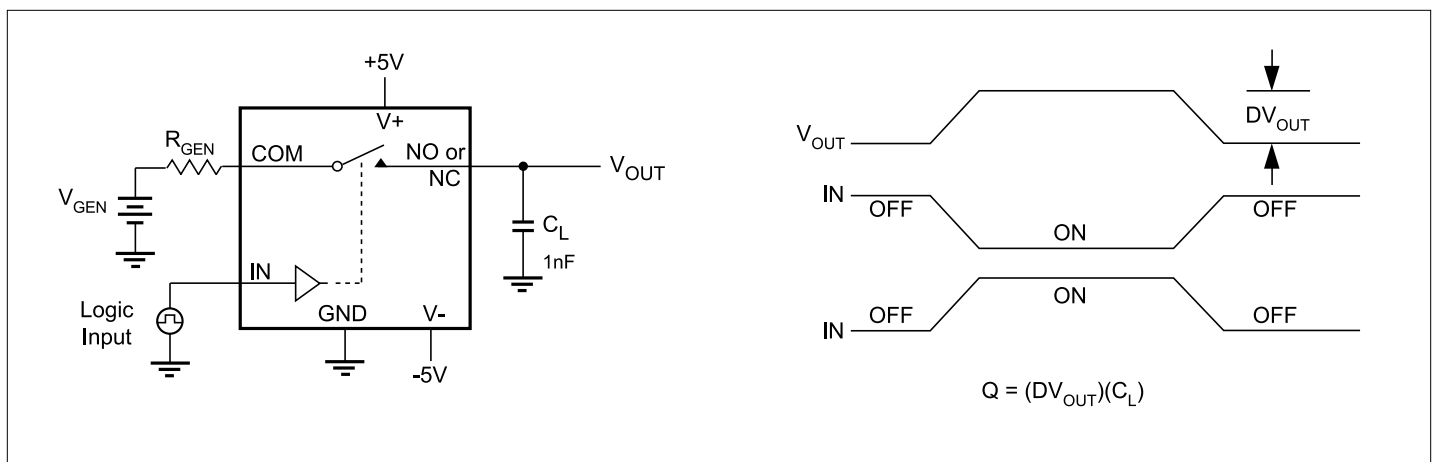

Figure 4. Charge Injection
| Charge Injection (3)                        | Q                                               | C L = 1nF, V GEN = 0V,R GEN = 0Ω, Figure 4              | 25     |                     | 0                   | 5                   | pC    |